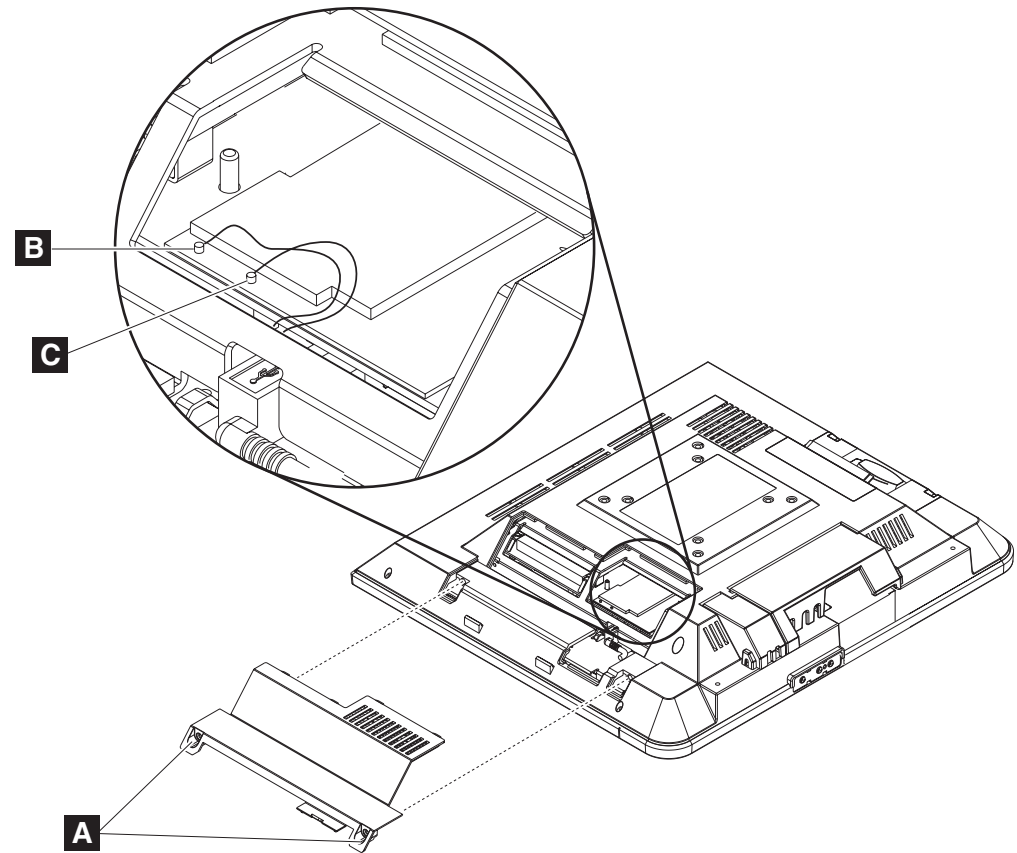

Figure 18. Removing the wireless card
2. Remove the two captured screws and lift to remove the hard drive door (see **A** in Figure 18). This door allows you access to the optional wireless card.